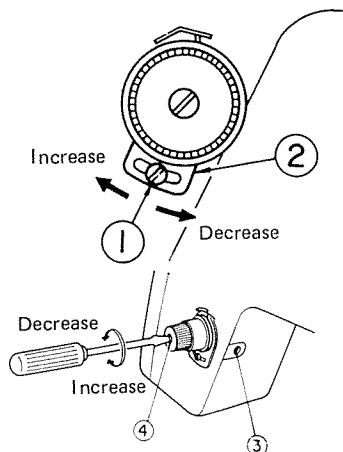

Fig. 13
13. Adjusting the stroke the tension of the thread take-up spring (Fig.13)